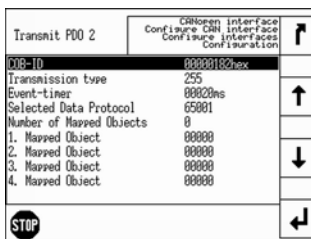

Fig. 191: TPDO configuration for 2nd IKD 1 (example HMI)
1. Set up TPDO2 for the easYgen on the front panel as shown in ( Fig. 191).